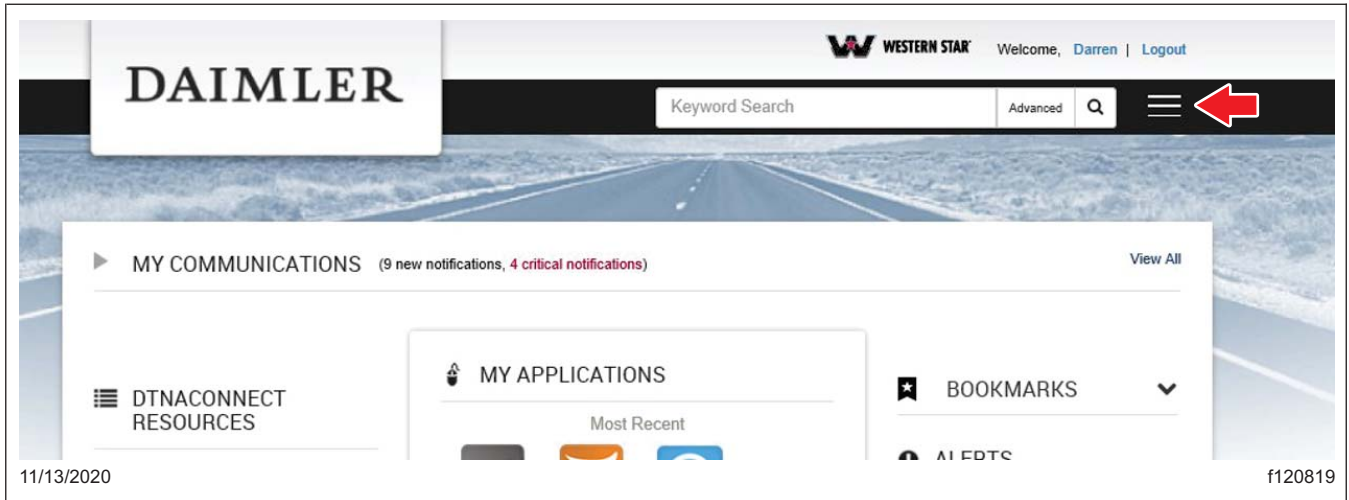

Fig. 2, DTNA Connect Home Screen
3. On the laptop, go to DTNA Connect, then select the three menu bars at the upper right-hand corner of the web page. See Fig. 2.